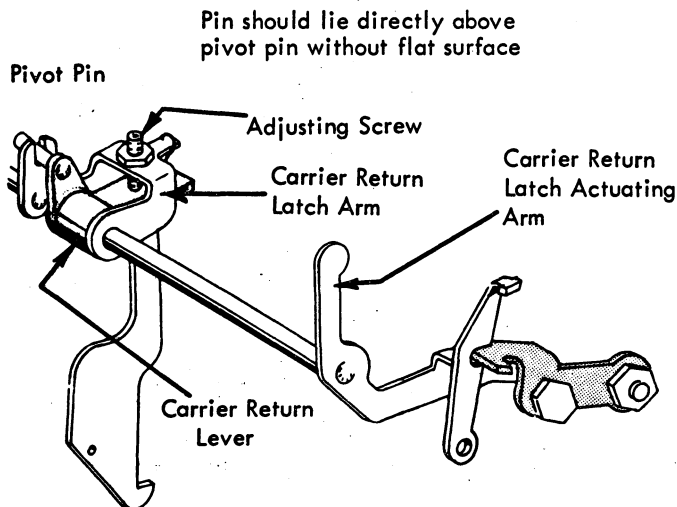

FIGURE 206. Clutch Latch Overthrow Adjustment (15 Inch Machine)
- a. **Carrier Return Lever** - Position the carrier return lever (Fig. 206) laterally on the latch actuating arm pin so that the carrier return latch will hang
- b. **Carrier Return Latch Arm Adjusting Screw (overthrow)** - With the carrier return cam on the high point adjust the latch arm adjusting screw (Fig. 206) so that the clutch latch will overthrow the latching surface of the keeper by .030" to .040". Be sure that the platen and feed rolls are installed and the index selector lever is in the double index position when checking this adjustment.